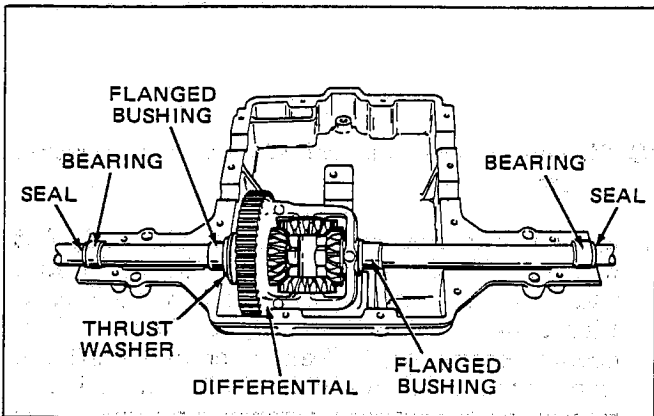

Figure 3-26
9. Remove differential from case. Remove seals (2), needle bearings (2), flanged bushings (2) and thrust washer. (See Figure 3-26)